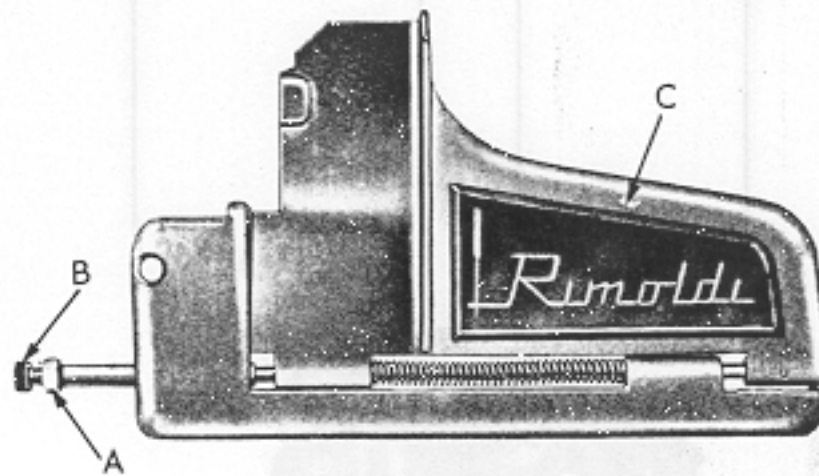

fig.17
f) Adjusting the front cover plate (fig. 17).